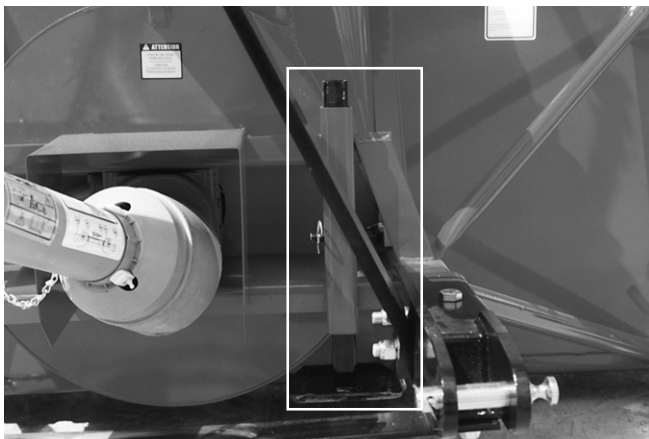

Figure 30
- 6) Following the installation of the Snowblower on the tractor, **do not forget** to lift the storage support (Fig. 30).